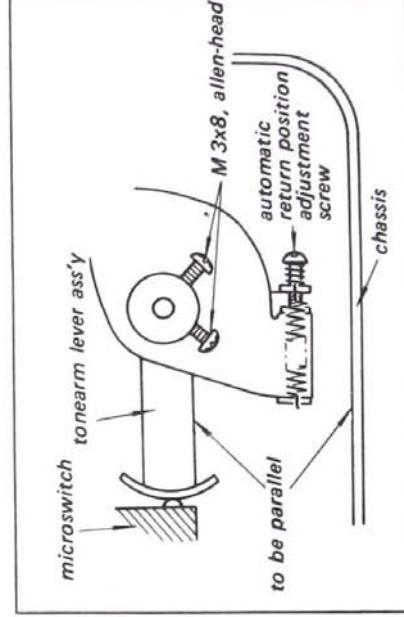

Fig. 3-4. Automatic return position adjustment
- Loosen the allen-head screw, and adjust the tonearm lever so that the tonearm lever is in parallel to the edge of chassis as shown in Fig. 3-4.
- The position where the tonearm starts to return can be adjusted by turning the automatic return position adjustment screw shown in Fig. 3-4.